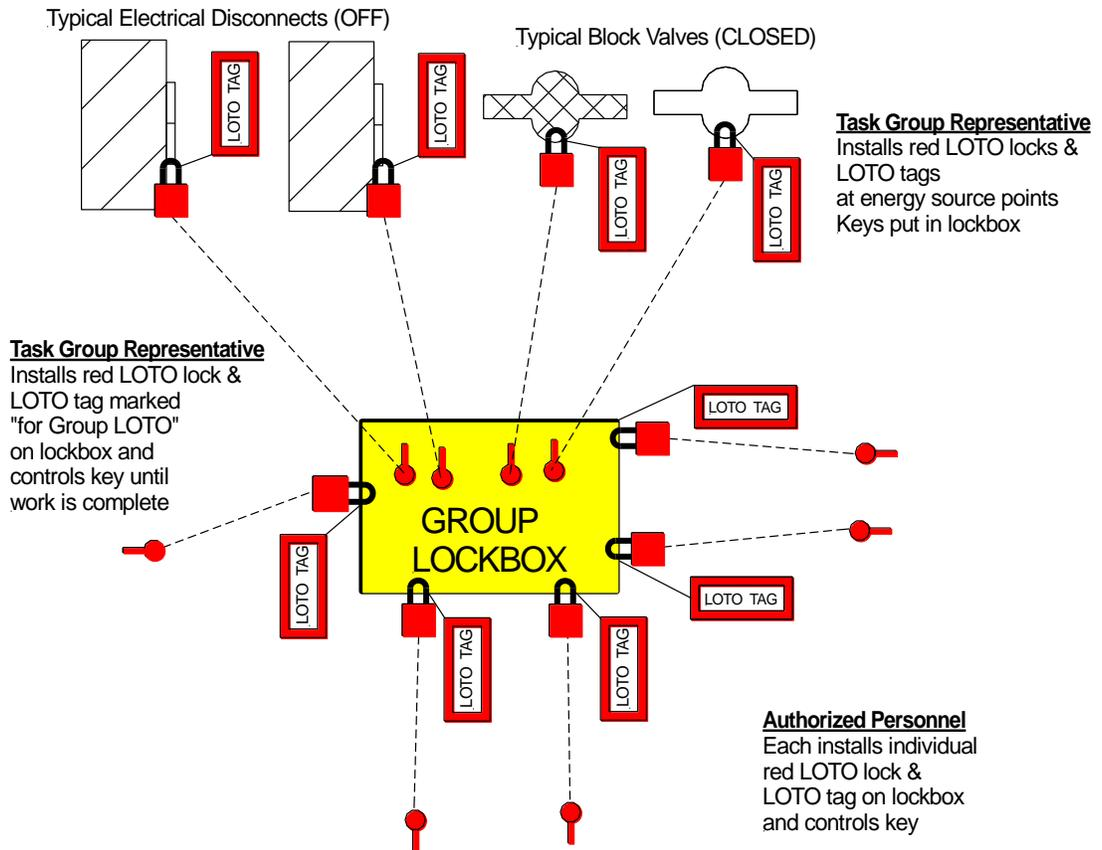

Figure 8.2-2. Group LO/TO multiple energy source control points.
- f. Multiple energy sources, multiple maintenance, servicing personnel, and *multiple point sources using lockbox* (figure 8.2-2):